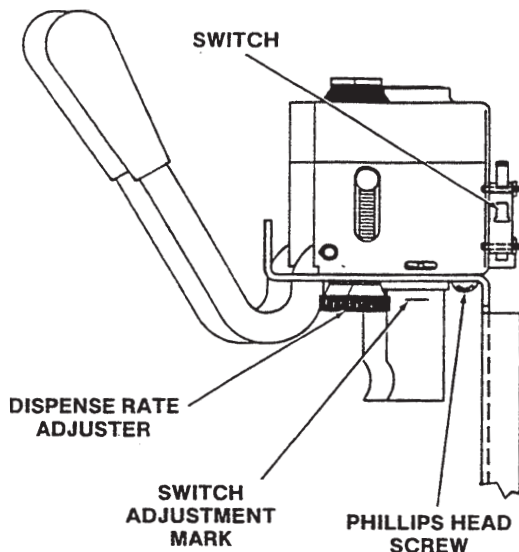

Figure 55. Spigot Switch Replacement
2. Remove the dispense rate adjuster knob located below the header panel. Then remove the two Phillips head screws that retain the handle assembly. Then remove from the electrical box to access the switch (Figure 55).
2. Using a pencil, mark the white plastic actuator ¼" below the stainless steel housing. Adjust the switch to activate when the spigot handle moves the plastic piece to the mark. Then, fully tighten the retaining screws (Figure 55).